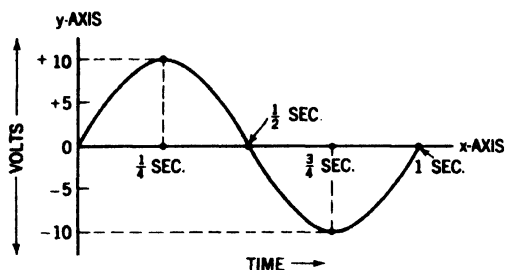

Fig. 31-10. Curve showing relationship between time and the induced voltage.
at the  $180^\circ$  position, and so on. Let us now look at the graph (Fig. 31-10) which shows the induced electromotive force at various intervals in the one second required for the loop to make a complete revolution. The graph was made from the data in Figure 31-9. The time is plotted on the horizontal axis ( $x$ ), and the electromotive force, on the vertical axis ( $y$ ).
We call an electromotive force, whose strength and direction varies as indicated by the curve of Figure 31-10, an *alternating electromotive force*.
**Application of the Sine Curve.** Note the resemblance of the sine curve to the curve of Figure 31-10. The path the sine curve follows during the time the loop of the generator is making one complete revolution ( $360^\circ$ ) is called a *cycle*. The symbol for the cycle is  $\sim$ . The number of cycles per second will depend upon the number of revolutions per second of the generator loop. The number of cycles per second is called the *frequency*. The symbol for frequency is  $f$ .